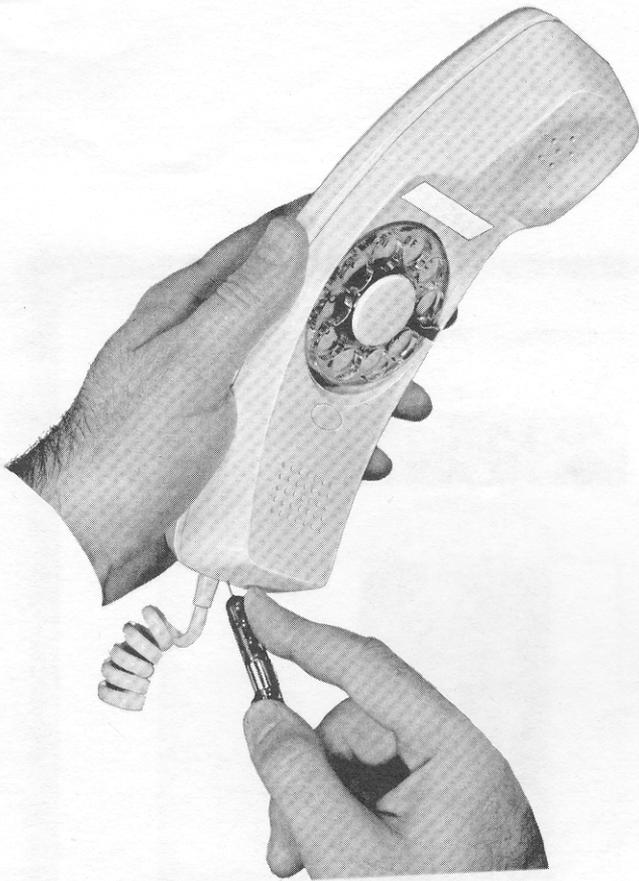

Figure 8. Removal of Handset Cord.
5.06 Perform the following to replace the handset cord (Figure 8):